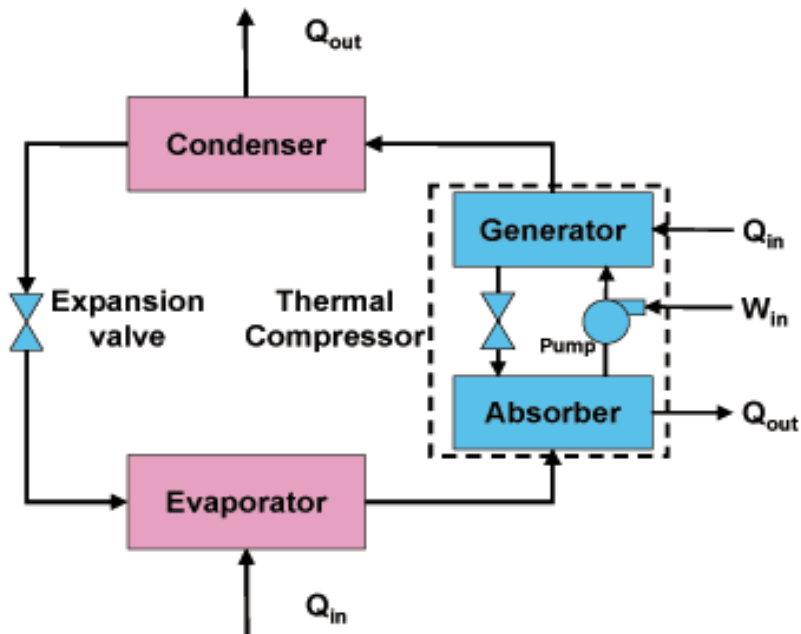

Figure 2-5 Process Schematic of an Absorption Chiller
- A process schematic of an absorption chiller is shown in Figure 2-5.